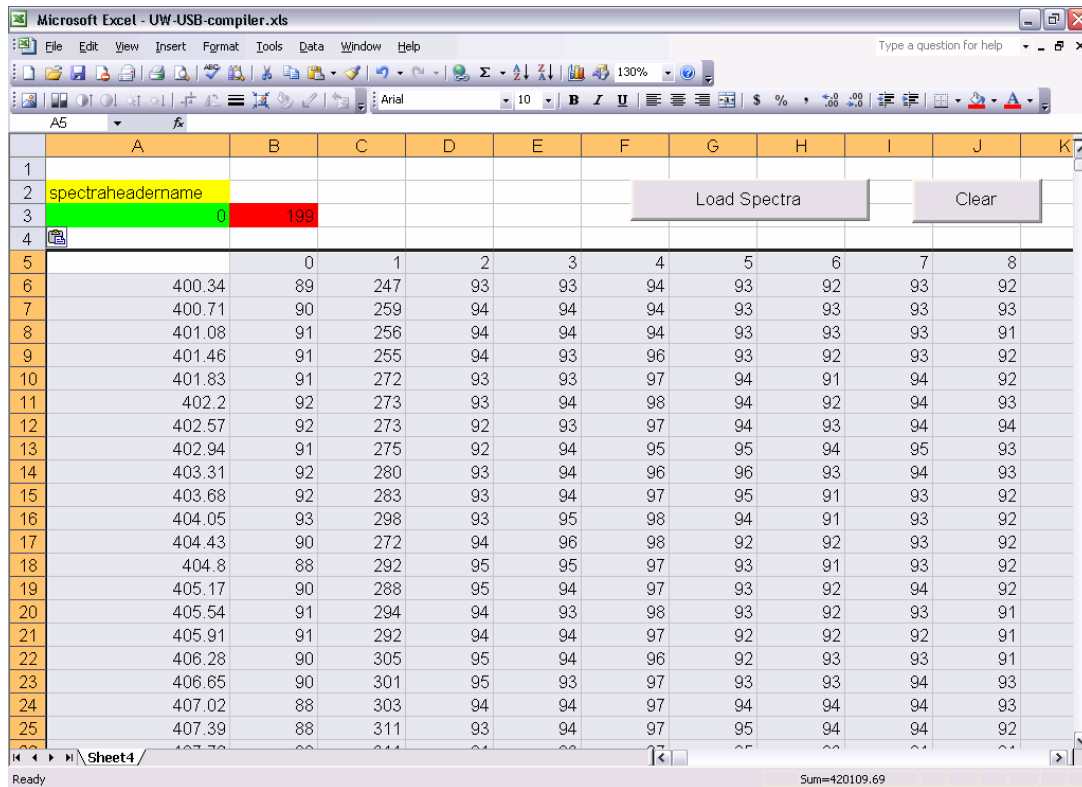

Figure 17 UW-USB compiler with spectra
1. Copy the spectra which is gathered with the excel macro compiler (Figure 17).